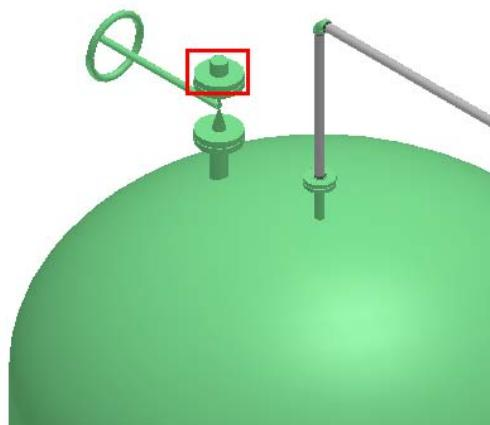

Figure 12: Flange Placed on the Gate Valve
12. Click **Finish** on the **Insert Component** ribbon to accept the placement of the flange. The flange placed on the gate valve should resemble Figure 12.